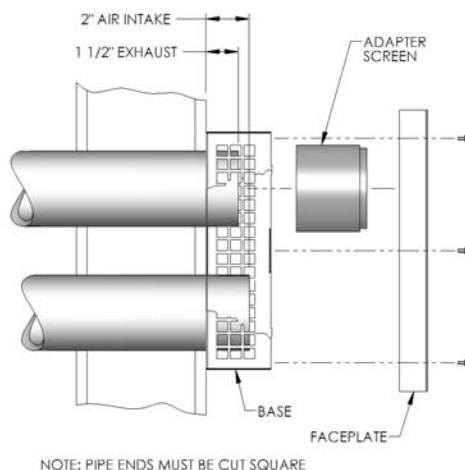

Figure 2
5. Install air intake and exhaust vent pipes through the holes making sure there is 2" of pipe protruding on the intake, and 1 1/2" of exhaust pipe protruding beyond the face of the backing plate. Pipes must be cut perfectly square. Refer to Figure 2.
6. Assemble face of vent terminal to vent terminal backing plate. Use the four (4) screws removed in step #2.